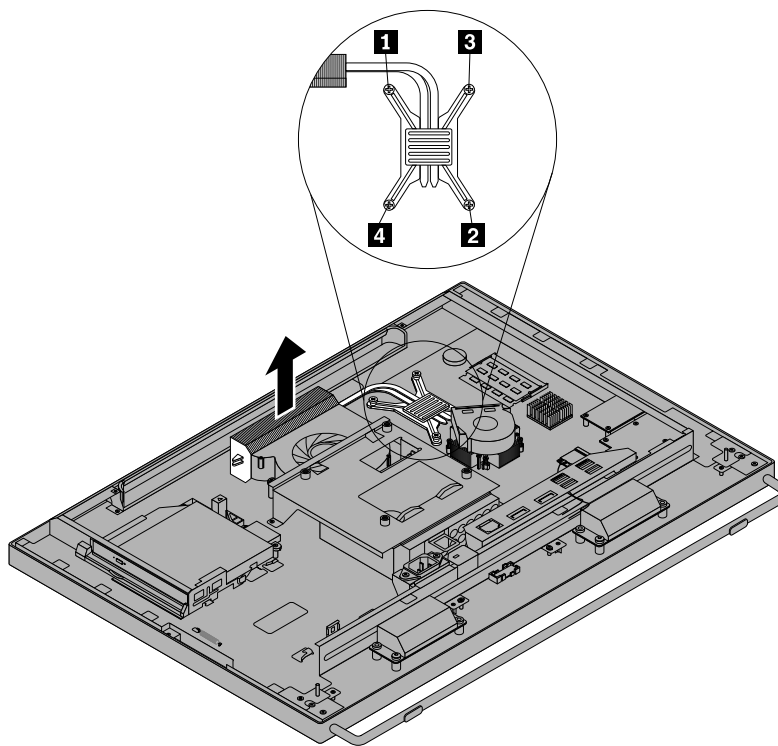

Figure 29. Removing the heat sink
8. Follow this sequence to install the four screws to secure the heat sink, as shown in Figure 29 “Removing the heat sink” on page 52.